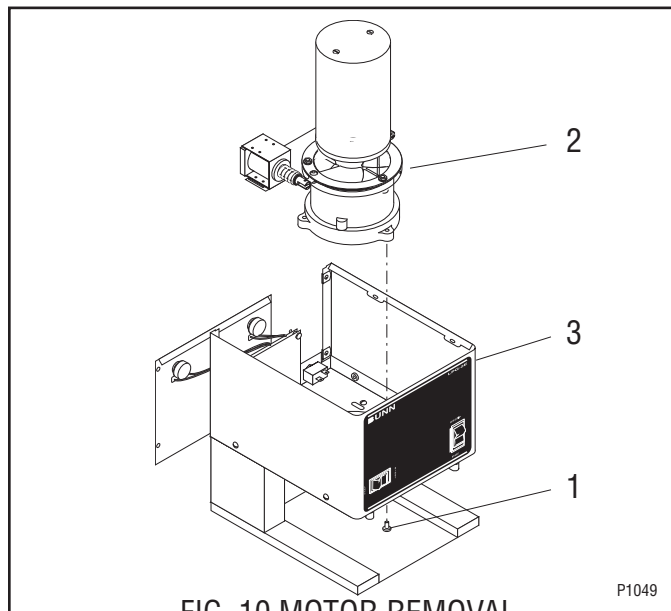

FIG. 10 MOTOR REMOVAL
3. Refer to Fig 10. Remove the three #10-32 x .25" screws (1) securing the motor to the motor support bracket.
4. Remove the motor, solenoid and solenoid components (2) from the hopper housing (3) as an assembly.
27. Install load disc (11) flat side towards rotor.
28. Install burr housing cap (10), adjusting screw, dechaffing spring plate and dechaffer support as an assembly to the new motor and housing assembly (17) using two #10-32 fillister head screws.
30. Install solenoids and solenoid bracket (4) as an assembly on the new motor.
31. Install spacer plate (3) making sure the hole in the spacer plate aligns with the hole in the mounting ring.
32. Install solenoid plunger with spring and slide plate (2) as an assembly into the solenoid coil. Place slide plate on the dowel in the mounting ring. Repeat for the opposite side.
33. Install retaining ring w/hopper gasket (1) using three #8-32 pan head screws and three #8-32 keps nuts.
34. Refer to Fig. 10. Install motor, solenoids and solenoid components (2) in the hopper housing (3) using three #10-32 truss head screws (1).